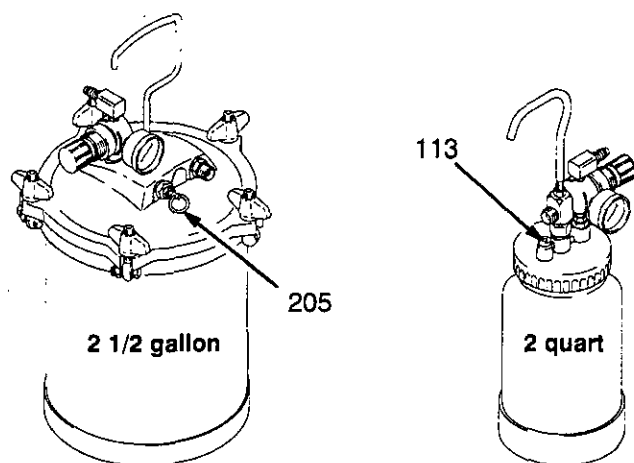

Fig. 3
- b. *2 1/2 Gallon Remote Pot:* Pull the pressure relief valve ring (205) until pressure is completely relieved.
*2 Quart Remote Pot:* Turn out the pressure relief knob (113) about one turn. Wait until pressure is completely relieved before removing the cover. Close the knob before using the system again. See Fig. 3.